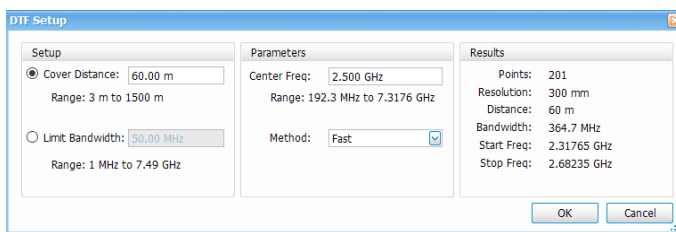

FIGURE 7. Setting cover distance.
9. Set the Cover Distance as shown in Figure 7. Specify the length of the cable or the distance to the DUT (for example, an antenna). This setup is recommended when there are no frequency limitations on the signal path between the analyzer and the system under test, such as when an antenna and cable are being tested. However, you can reduce the cover distance to just include the fault (for example, if your cable is 100 m long, but there is one fault at 30 m, you can reduce the distance to 35 m). Using a smaller cover distance results in increased trace resolution for a given number of points.